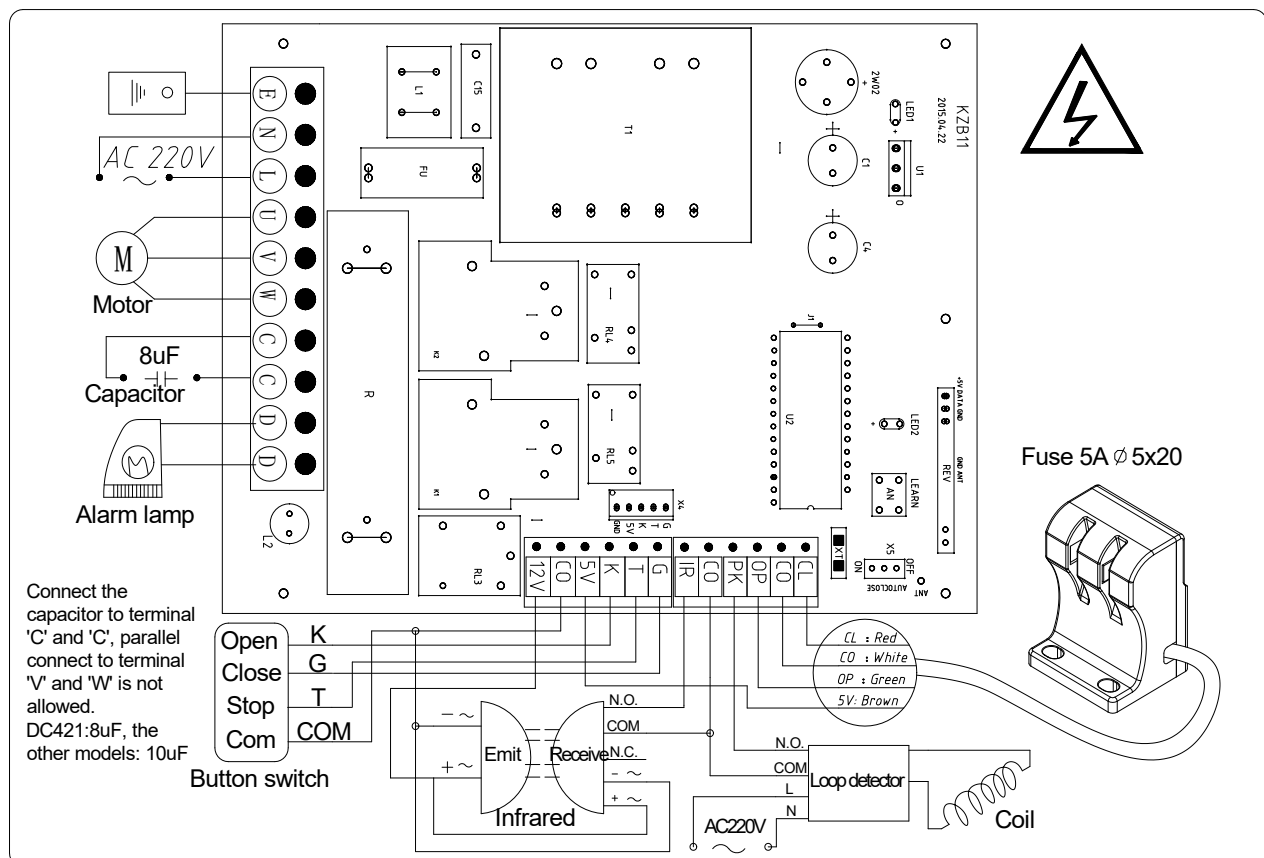

Fig.8 Control Board
- **To add extra remote controls (Learning):** Press the button 'LEARN BUTTON' (see Fig.8) on the control board, the LED turns on, then press the Button 4 of remote control button, the LED turns off, press the same remote control button again, the LED flash and then stop. the learning process is finished.